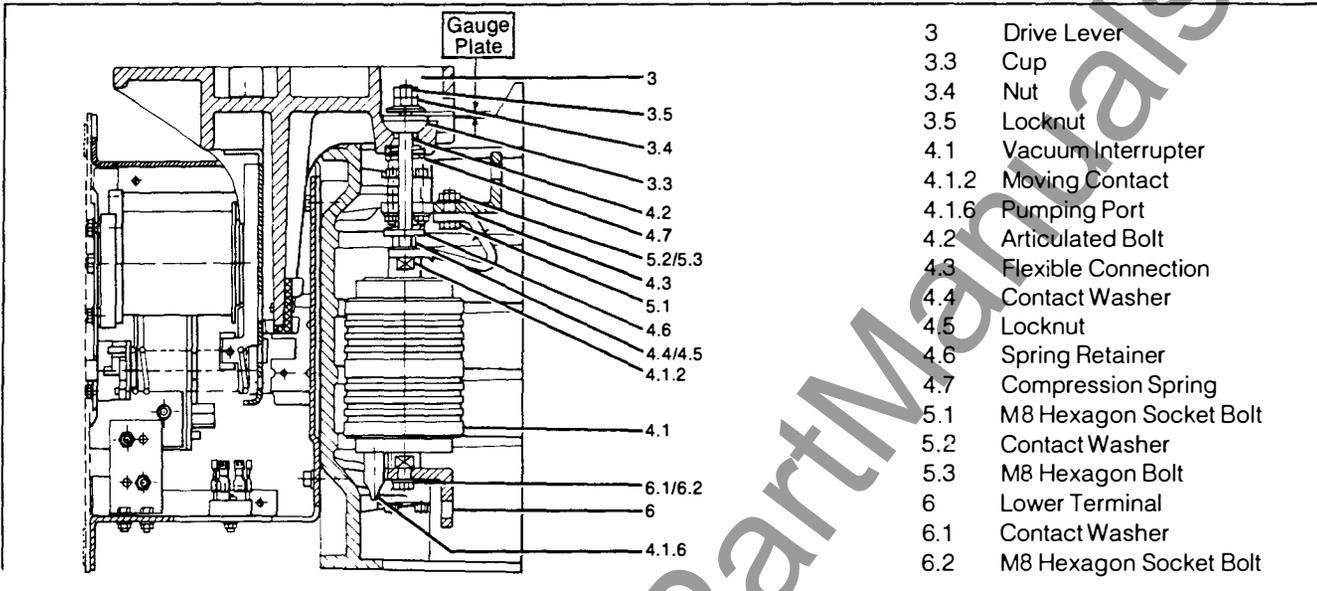

Figure 16. Installing the Replacement Vacuum Interrupter
When positioning the interrupter take care to see that the pumping port (4.1.6) locates in the rear cutout of the lower terminal (6), see **Figure 16** and **17**.
- Place the interrupter (4.1) on the lower terminal (6) and fix it in position using a new contact washer (6.1) and the hexagon socket bolt (6.2).
- Pass the bolt through the drive lever (3).
- Attach the flexible connection (4.3) to the line terminal using the hexagon socket bolt (5.1), contact washer (5.2) and nut (5.3), see **Figure 16**.